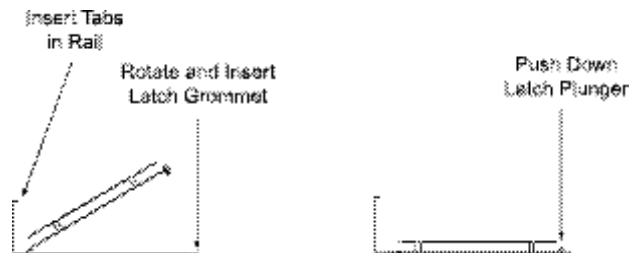

Figure 4
C. Mounting in Enclosure - Refer to **Figure 4**